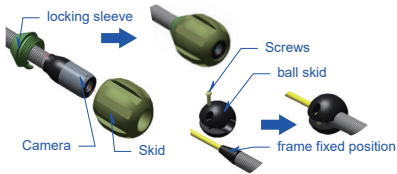

Figure 15. 78 Roller skid
1) Install 78 skid and 60 ball skid. (Figure 15)